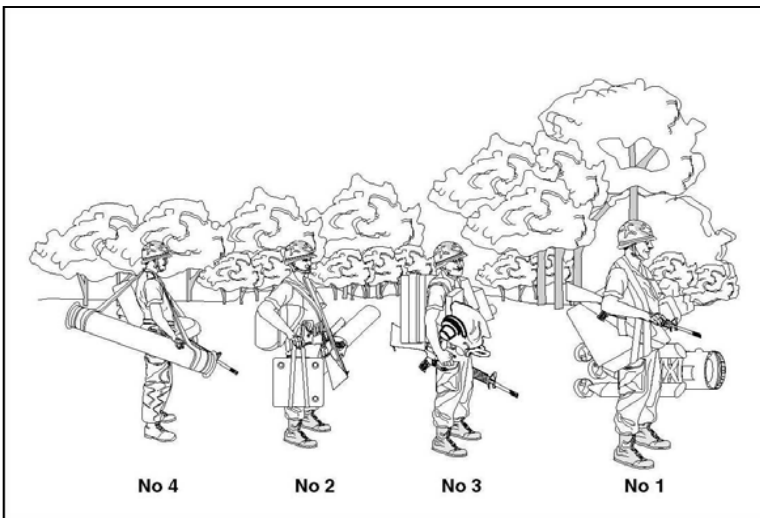

Figure 2-8-1: TOW 2 Detachment Carrying Configuration for Dismounted Operations Carried Out Close to the Vehicle
9. **Introduction.** When the system is to be moved from one dismounted position to another or dismounted from any weapon platform, it can be disassembled and carried. For speed in assembling at the new position, the detachment should move in the following order of march: 1, 3, 2 and 4. Each member is responsible for carrying the following components (see Figure 2-8-1):
- d. **The No. 4:** one encased missile, thermal imagery (TI) sight power conditioner and TI sight in its protective case.